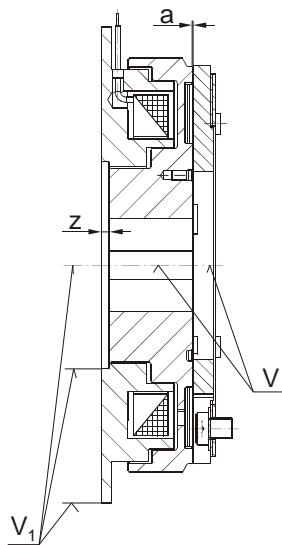

Fig. 6
- Keep to dimension "Z", Table 1 and Fig. 6.